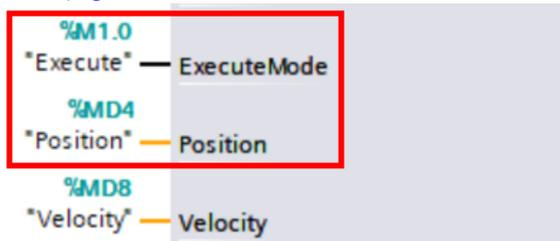

Figure 3-7 Related pins
2. Set FB284 ModePos to 6 to enter program block control. FB284 position now represents the selected program block. Select the program block to be run and send a rising edge signal to ExecuteMode to activate the selected block. as shown in "Figure 3-7 " on page 24 .